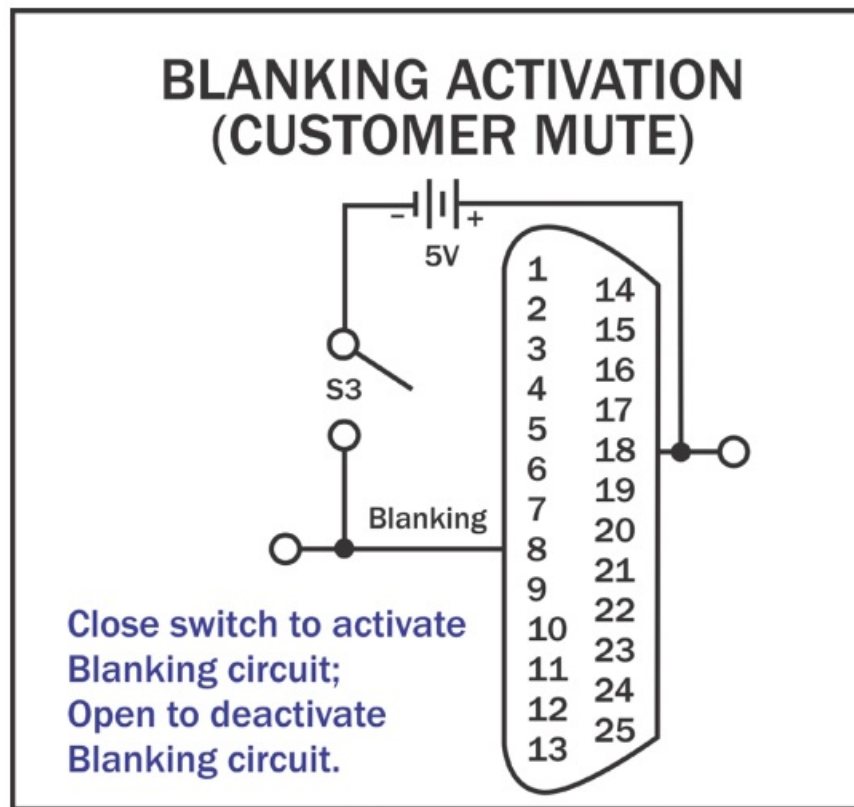

Figure 5.8 – Blanking Activation
- Method: Build a switchable circuit using an external, isolated 5V power supply that can apply a +5V signal to PIN 8. Connect across PIN 8 (Blanking) and PIN 18 (Blanking Return). See Figure 5.8.